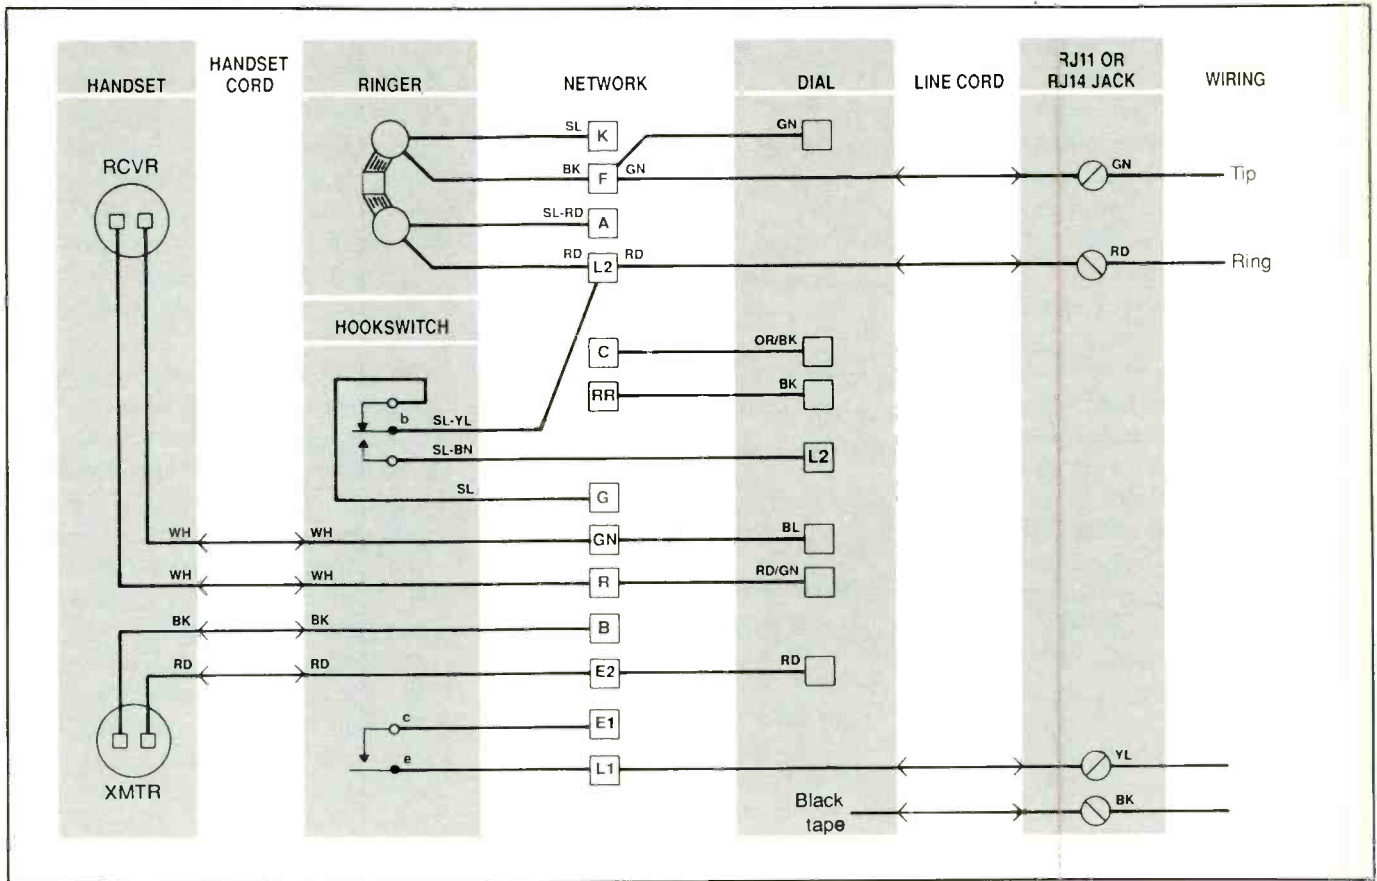

Fig. 16. Network diagram of a typical 2500-type telephone instrument.
(2) *Network*. This is the interconnect point for all parts of the phone that filters and isolates the audio circuit and ringer and provides proper line balance and loss compensation. A wiring diagram of the network in a typical 2500-type telephone instrument is shown in Fig. 16.